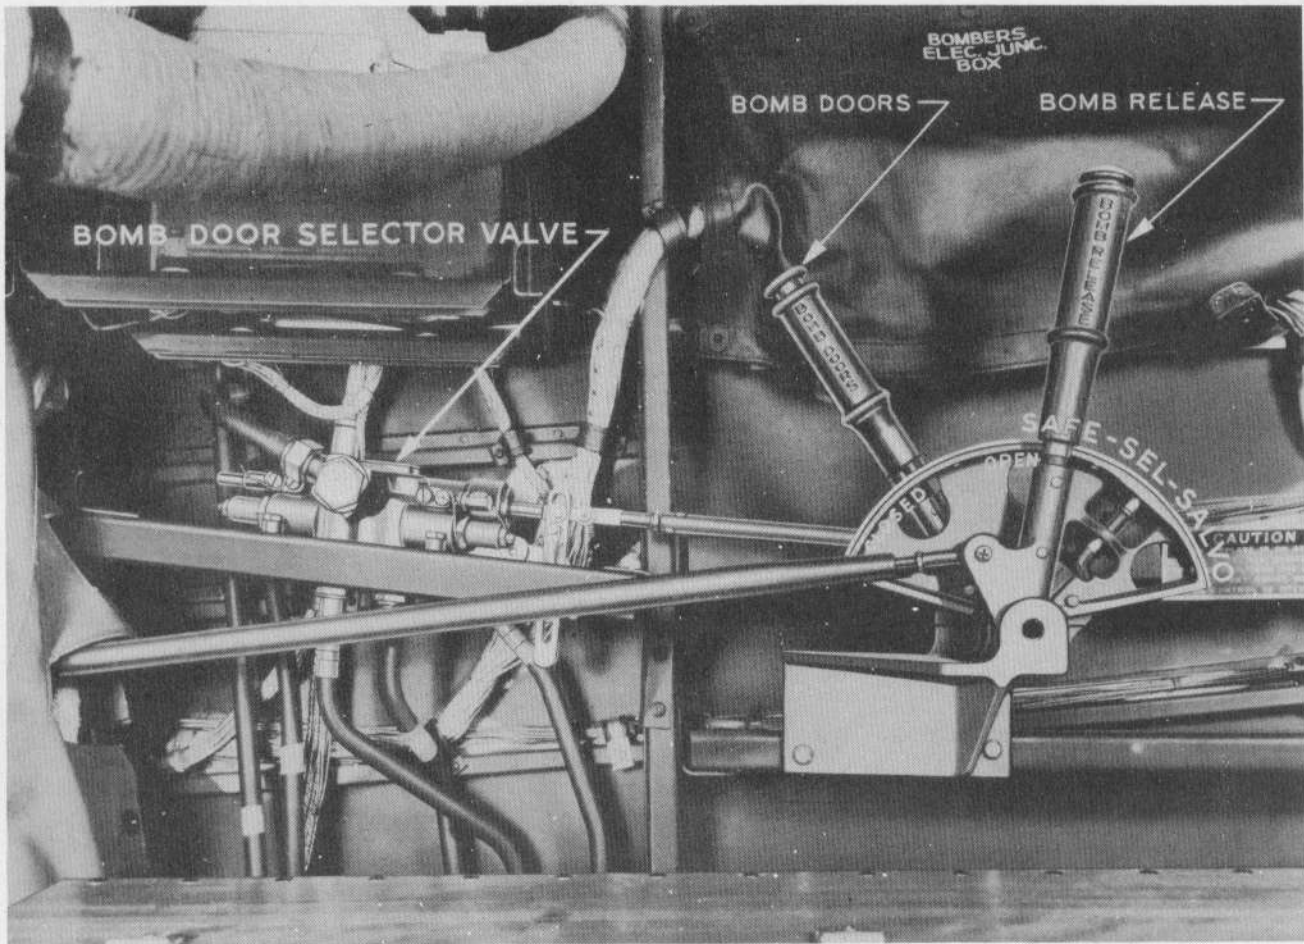

Figure 74—Bombardier's Control Quadrant
(1) BOMB QUADRANT. (See figure 74.)—The bomb quadrant located on the left side of the nose compartment has two lever handles.